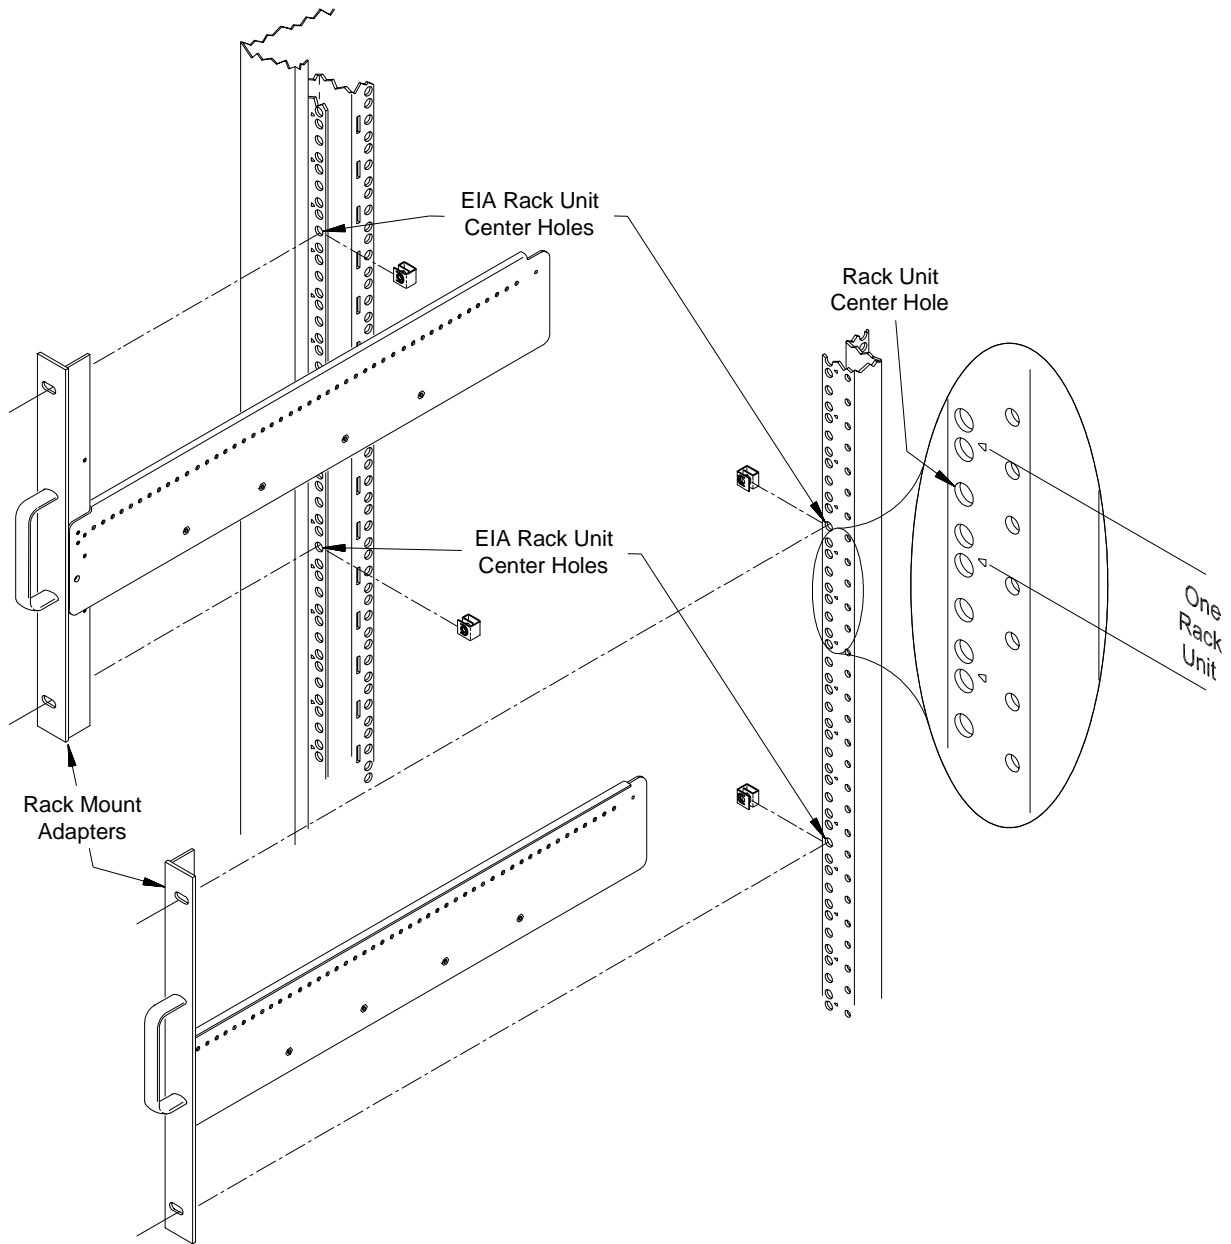

Figure B-2. Positioning the Mainframe in the Rack.
2. Using the rack mount adapters as templates, position the adapters on the rack's vertical rails where the mainframe is to be mounted. Align the adapter holes over the "center" holes of the EIA rack units (Figure B-2).